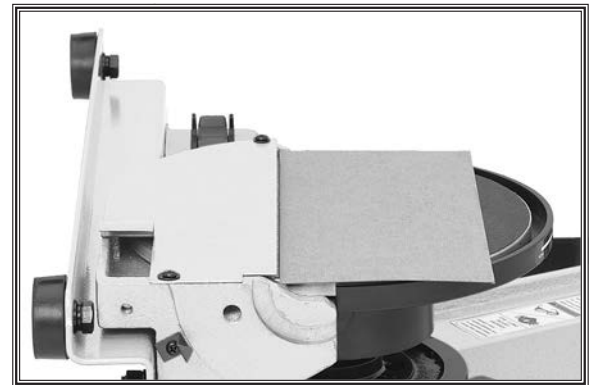

Figure 16. Using thin cardboard ($\frac{1}{16}$ " thick) for clearance gauge.
13. Gently lay sander on flat surface, as shown in **Figure 16**, and place thin piece of cardboard approximately $\frac{1}{16}$ " thick over sanding disc. Cardboard acts as spacer when installing disc table.